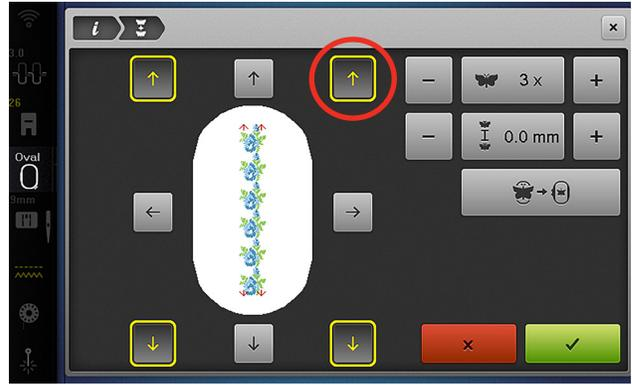

Fig. 7
- Reference Marker:** Set or modify marker points by selecting the arrow buttons around the hoop (Fig. 7); the yellow arrow icon corresponds to the red arrow marker point shown within the hoop. Arrows are generated as they are selected and are all grouped together on a single layer.